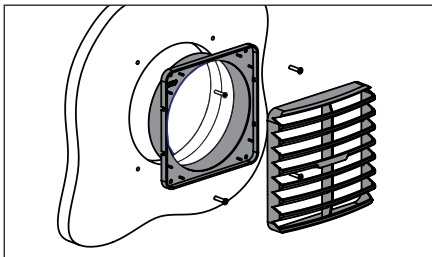

Fig. 21
3. Fix Grille base with four 6 G screws and snap fit the Grille louvres over the Grille base as shown in Fig. 21.